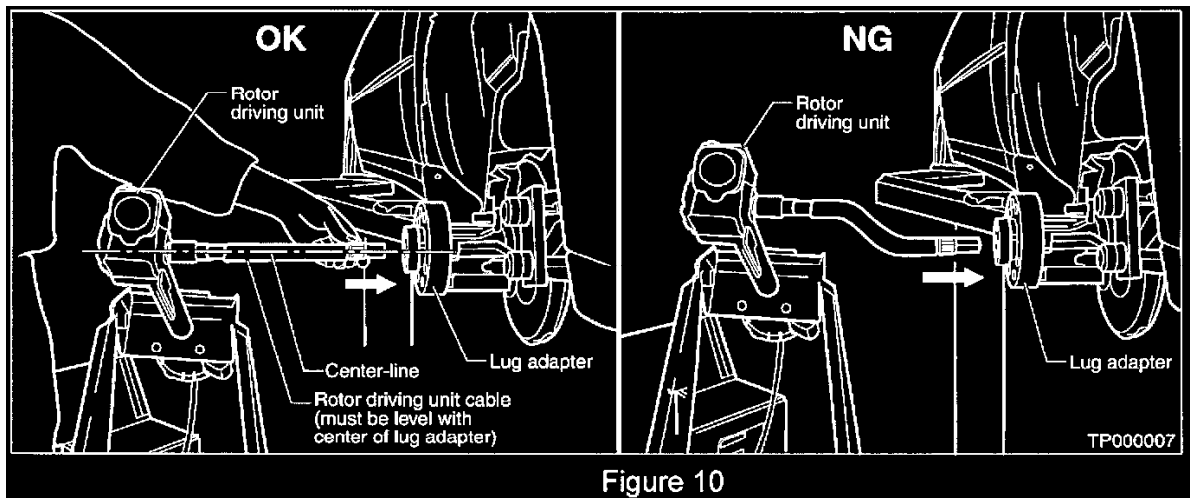

Figure 10
15. Connect the rotor driving unit to the lug adapter (see Figure 10).
Make sure the rotor driving unit cable is exactly level with the center of the lug adapter (see Figure 10).